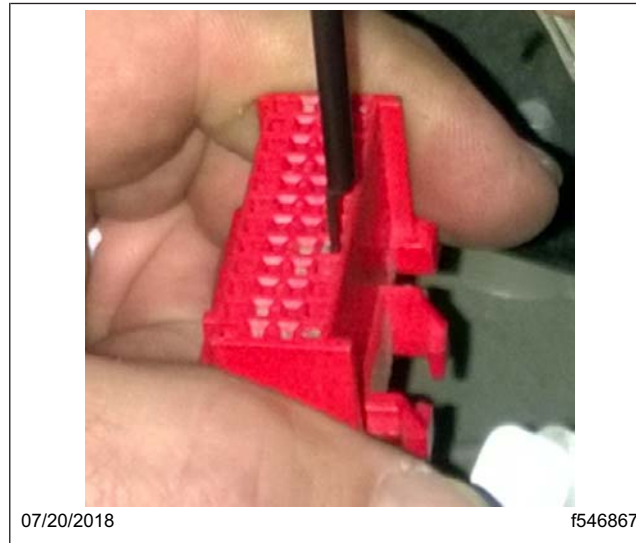

Fig. 7, Removing the Terminal from the Connector
13. Insert the removal tool (p/n DKIOCHA17002-2) into the access hole opposite the terminal to unlock and release the terminal. See Fig. 7. Remove wire 376N from the connector.